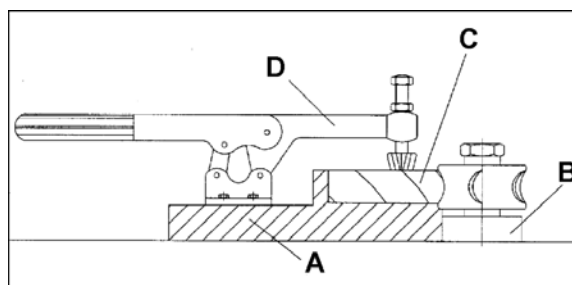

Figure 34
1. Prepare the jig (A, Figure 34) to accommodate your original workpiece.
2. Place the jig (A, Figure 34) against the table ring guide shoulder (B, Figure 34).
3. Fasten the new workpiece (C, Figure 34) on the jig (A, Figure 34) with the clamp (D, Figure 34) and push the assembly past the cutter.